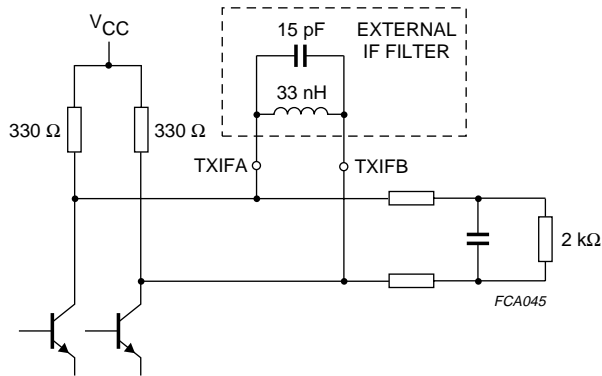

Fig.4 I/Q modulator output.
12. With specified LC tuned circuit (33 nH, 15 pF) connected as shown in Fig.4.